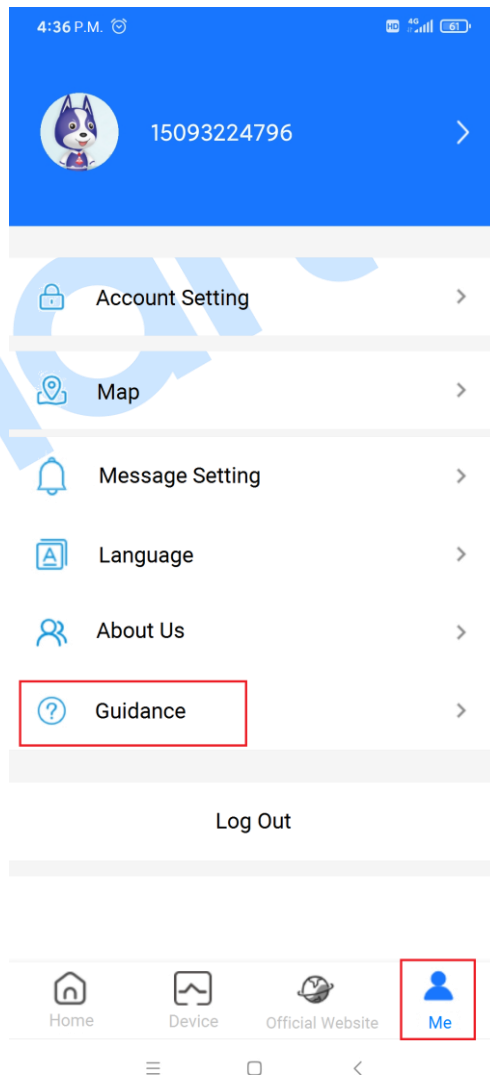

Fig.18 – APP Display Interface
- 3) Other related settings please refer to “Me-Guidance” (as Fig. 18).